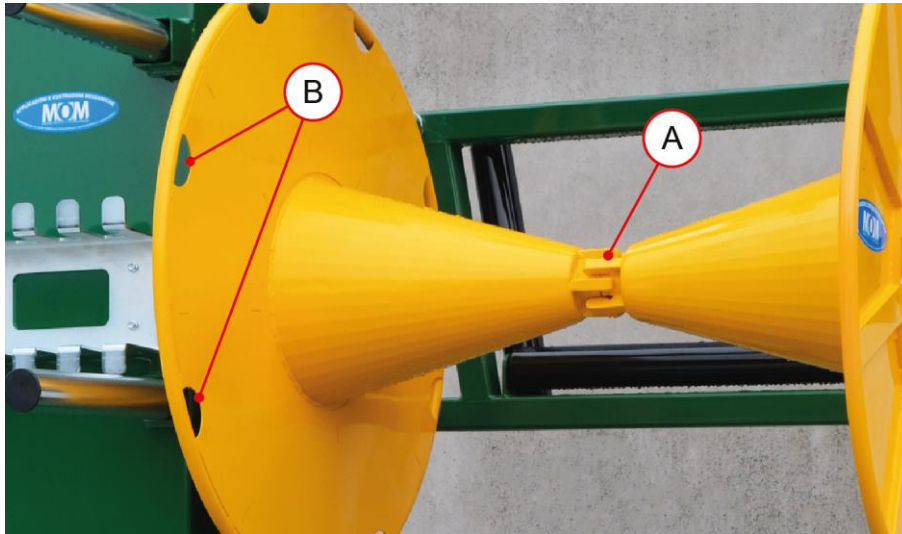

FIG. 9
- When closing the winders, check that there are no plant residues or other obstacles between the couplings pos. A FIG. 9, which may affect the correct linkage.
- Use the dedicated holes pos. B FIG. 9 to fasten the rope used to block the drip tape.